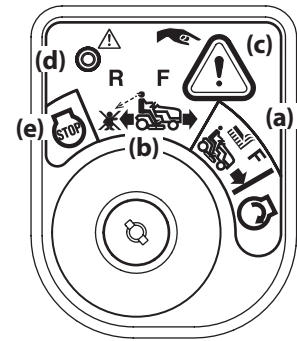

Figure 3-5
2. Turn the key from the NORMAL MOWING  (a) position to the REVERSE CAUTION MODE  (b) position of the ignition module. See Figure 3-5.
3. Press the REVERSE PUSH BUTTON  (c) at the top, right corner of the ignition module. The red indicator light (d) at the top, left corner of the ignition module will be ON while activated. See Figure 3-5.
6. The REVERSE CAUTION MODE (B)  will remain activated until: